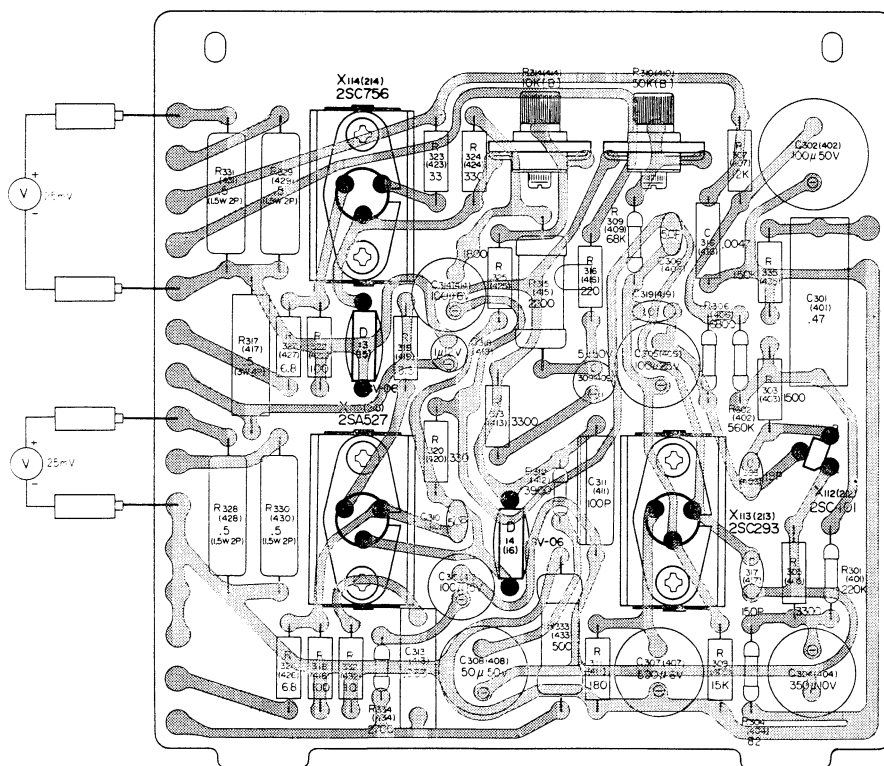

Fig. 2-3.
Step 2 : Turn the d-c bias adjustment resistor R314, (414) to obtain $25 \pm 5\text{mV}$ reading on d-c voltmeter. See Fig. 2-3.